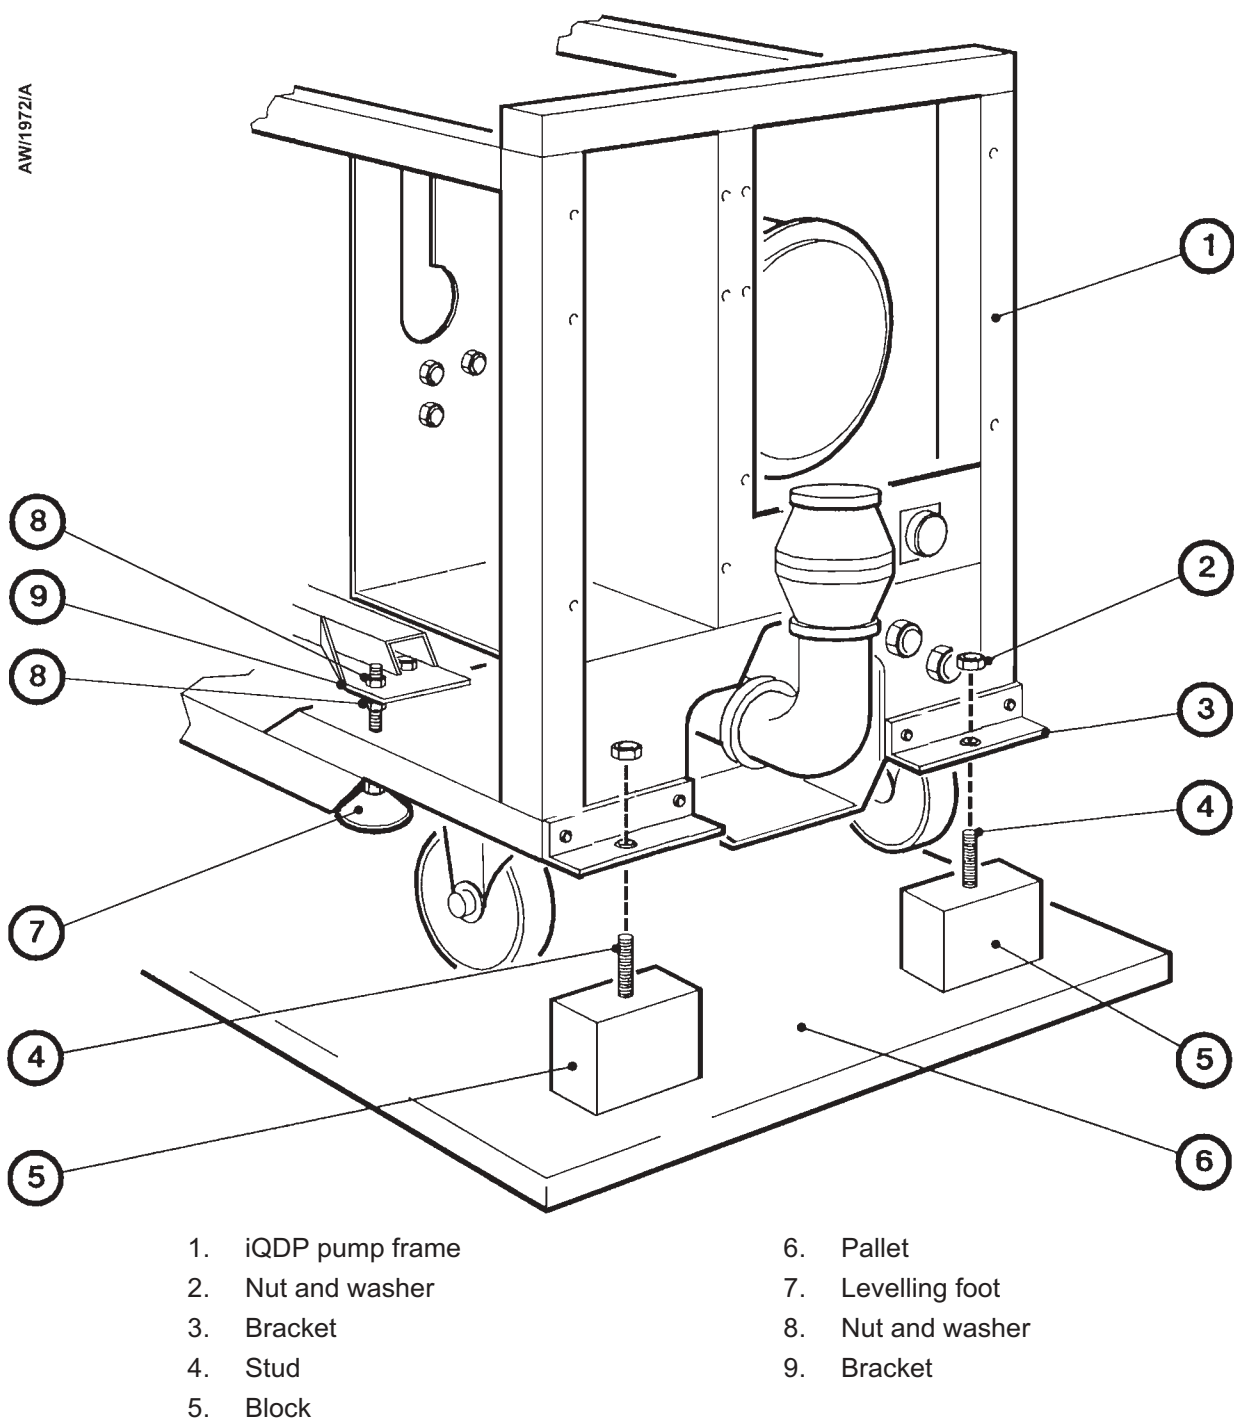

Figure 3-1 - Remove the iQ system from the pallet
3. Refer to Figure 3-1. Remove the two nuts and washers (2) which secure the front of the pump to the pallet. Remove the two nuts and washers (2, not shown) which secure the rear of the pump to the pallet. Dispose of the nuts and washers.
Note: Refer to Figure 3-1. After you have located the iQ system, if you want to secure the iQ in place to prevent unwanted movement (or example, during an earthquake), fit suitable bolts or studs through the transit brackets (3) and into the floor; alternatively, fit additional suitable restraints (which you must supply) to the four levelling feet (7) or their M12 supports.
2. Refer to Figure 3-1. Remove the nuts and washers (8) fitted to the top of the four levelling feet (7), then retract the levelling feet.